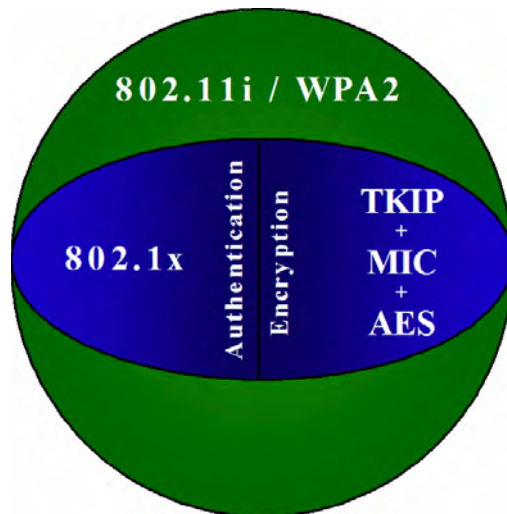

FIG. 92 WPA2 Overview
- With the RC4 released to the general public, the IEEE implemented the Advanced Encryption Standard (AES) as the cipher engine for 802.11i, which the Wi-Fi Alliance has branded as WPA2 (FIG. 92).